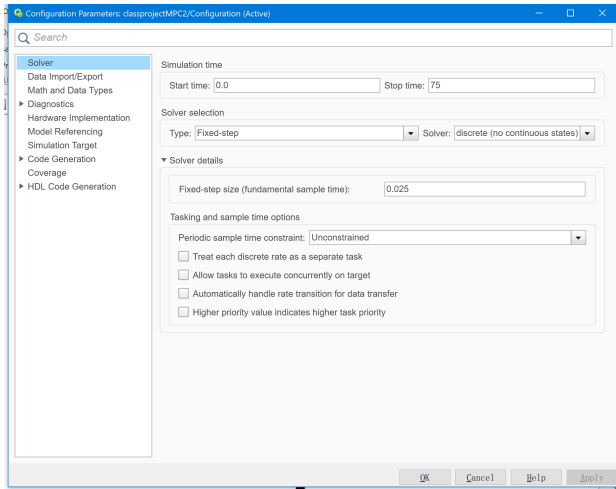

Fig. 13. Model configuration parameters.
- Press ctrl+E, open the model configuration parameters, set the solver as shown in Fig. 13: